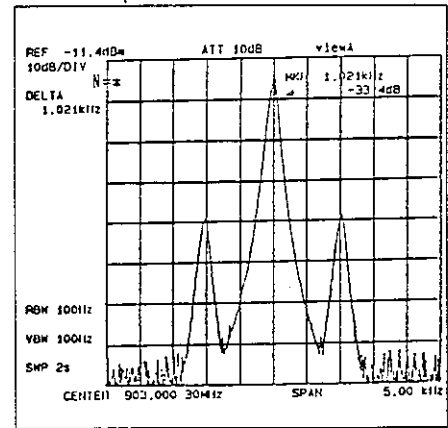

Figure 5-16 Measurement of AM Wave with High Modulating Frequency and Small Modulation Index
- ② Set the center frequency to the carrier frequency.
- ③ Set the marker to the carrier peak.
- ④ Set the  $\Delta$  marker to the modulation signal spectrum peak (see Figure 5-16).